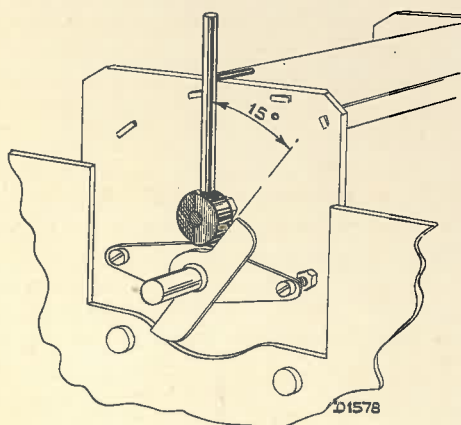

Fig. 4
1. Fit the 15° gauge (see fig. 4). Turn the variable condenser firmly against the gauge (smallest capacity).
16. Fit the 15° gauge (see fig. 4). Turn the variable condenser firmly against the gauge (smallest capacity).